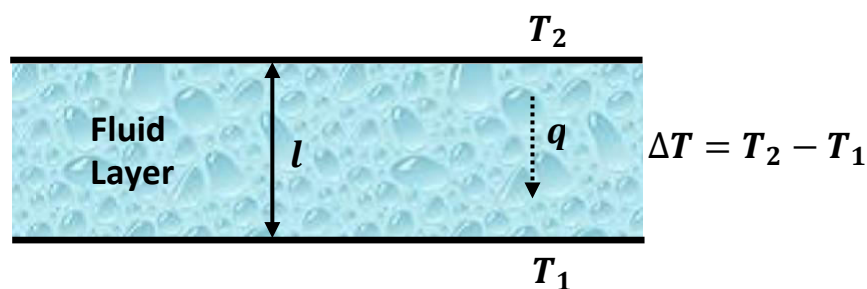

Fig. 7.2 Heat transfer through the fluid layer
- To understand the physical significance of the Nu, consider a fluid layer of thickness l and temperature difference $\Delta T = T_2 - T_1$ as shown in Fig. 7.2.